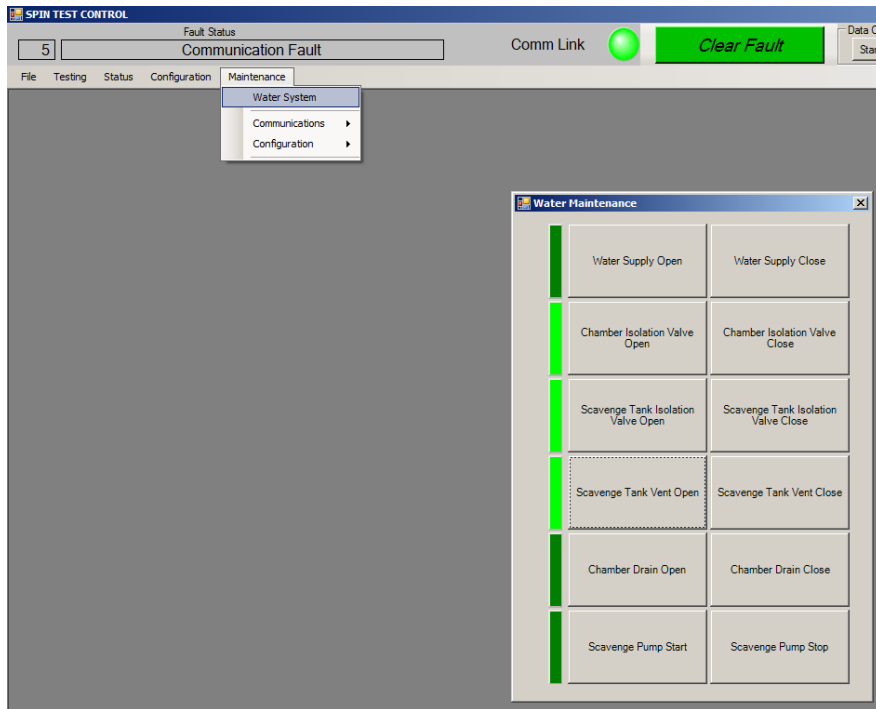

Figure 12: Water System Window
1. Ensure the Water System/Maintenance window is closed (not displayed on the screen). Figure 12 shows what the water system/maintenance window looks like.